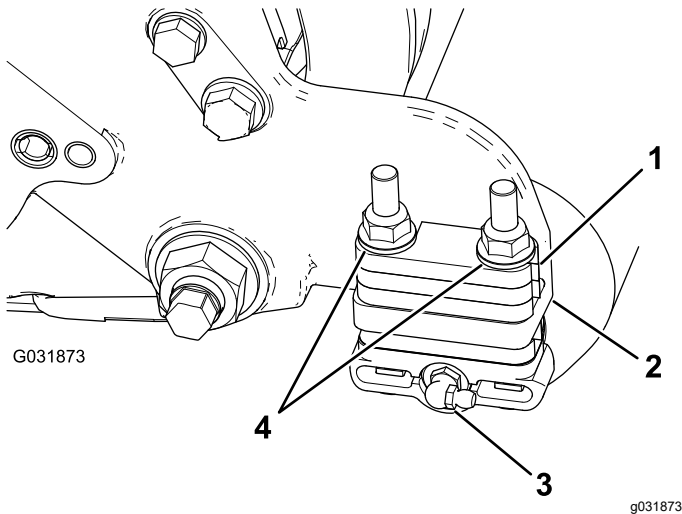

Figure 8
2. Install the 90° grease fitting so that it faces rearward (Figure 8).
3. Remove the 2 flange locknuts and washers securing each roller bracket to the side plates (Figure 8).